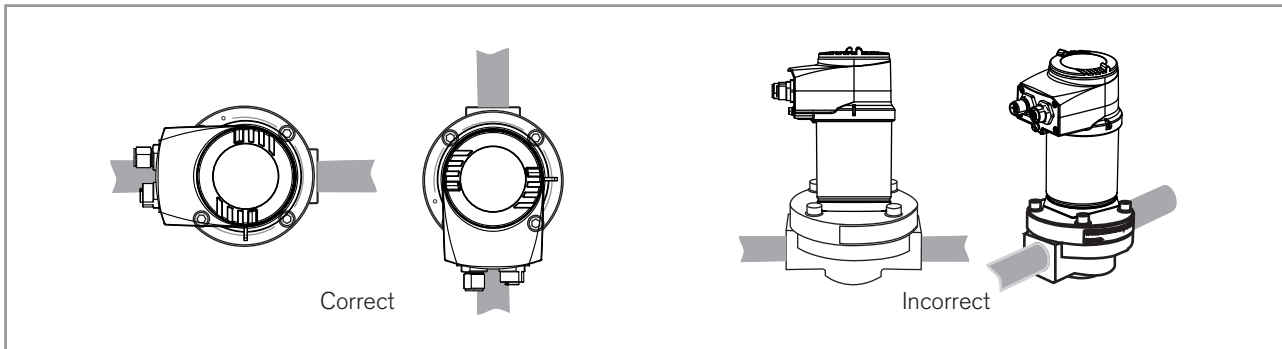

Figure 15 : The oval gear axes must be horizontal (seen from the front)
- Install the fitting S070 on the pipe in such a way that the oval gear axes are in the horizontal plane, as shown in Figure 15.